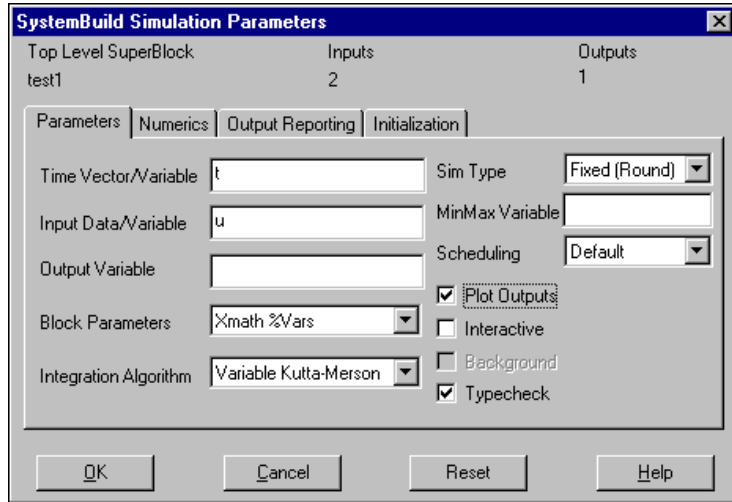

Figure 15-10. SystemBuild Simulation Parameters Dialog, Ready for Simulating Comparison
- From the SuperBlock Editor that contains test1, select **Tools»Simulate**. In the SystemBuild Simulation Parameters dialog, specify t and u for the time vector and the input data variables, respectively. Set the Sim Type to **Fixed (Round)**, and enable **Plot Outputs**. Refer to Figure 15-10. Click **OK**.